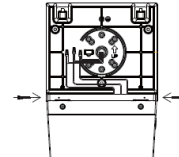

Fig. 2.4
5. Attach the front cover of the luminaire to the back plate using the provided screws (Fig. 2.4).